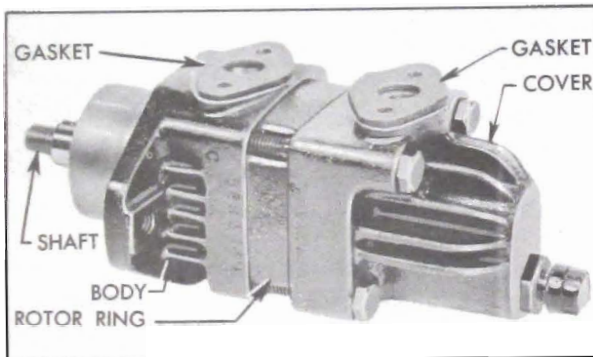

Figure 8-39—Pump with Reservoir Removed
3. Then remove pump manifold, housing, and gaskets. See Figure 8-39.